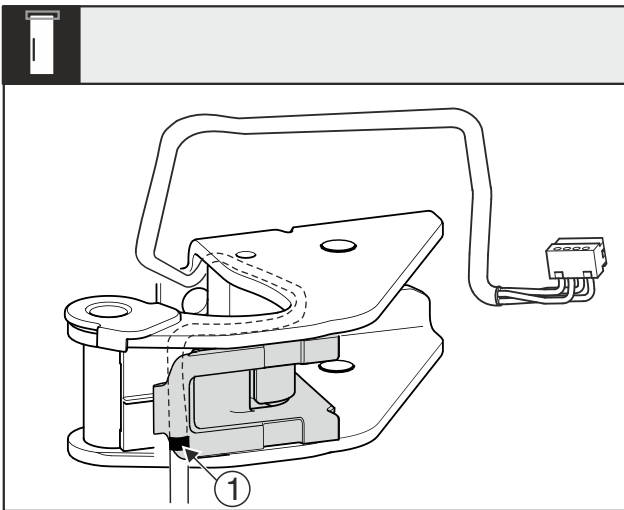

Fig. 23
- ▶ The center mark Fig. 23 (1) must be positioned on the edge of the cable bracket.